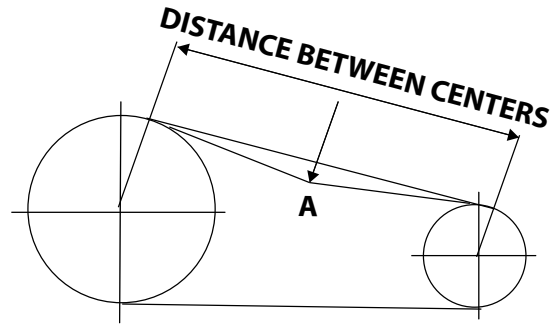

Figure 17
NOTE: Apply the force indicated in the table with the tensiometer at the midpoint of the center-to-center distance (Point A) **Figure 17**
- The belt is properly tensioned when the deflection in the center of the span (Point A) **Figure 17** is equal to the deflection distance shown in the table when the deflection force shown is applied with a tensiometer.